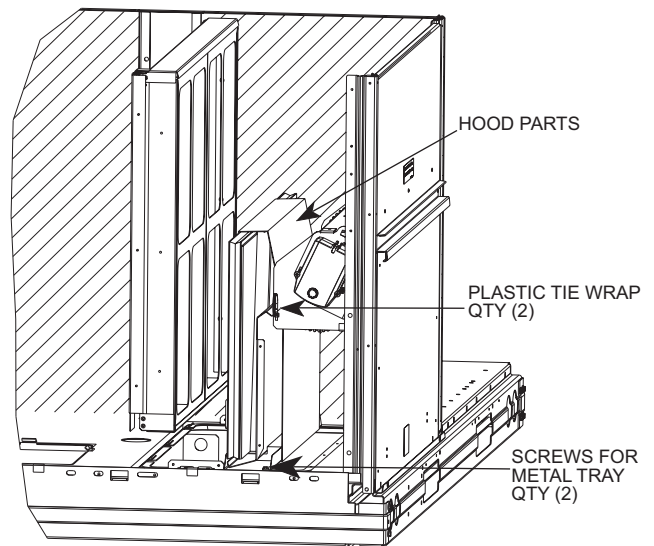

Fig. 13 — Damper Assembly
2. Locate the (2) screws holding the metal tray to the basepan and remove. Locate and cut the (2) plastic tie-wraps securing the assembly to the damper. (See Fig. 13.) Be careful not to damage any wiring or cut tie-wraps securing any wiring.